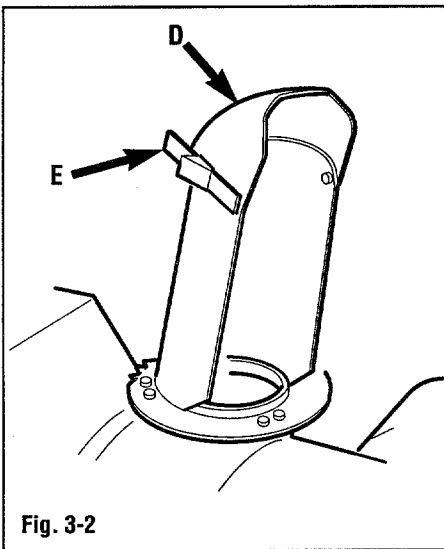

Fig. 3-2
The angle of the discharge chute deflector cap controls the vertical angle of the snow discharge. Lift lever (E, Fig. 3-2) to adjust discharge chute deflector cap angle (make sure stud on lever is seated in one of the positioning holes on the discharge chute cap (D) after adjusting). The discharge chute deflector cap should